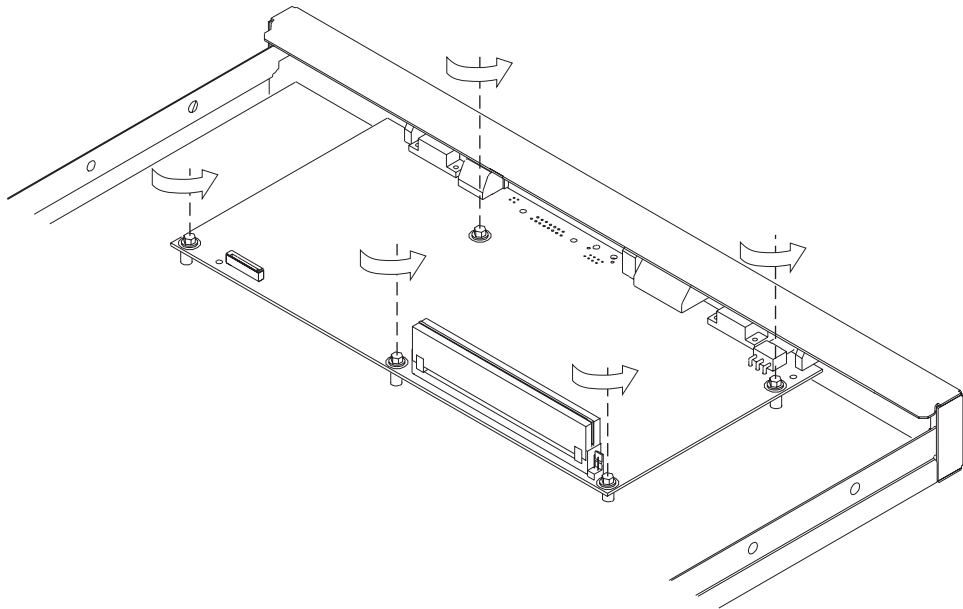
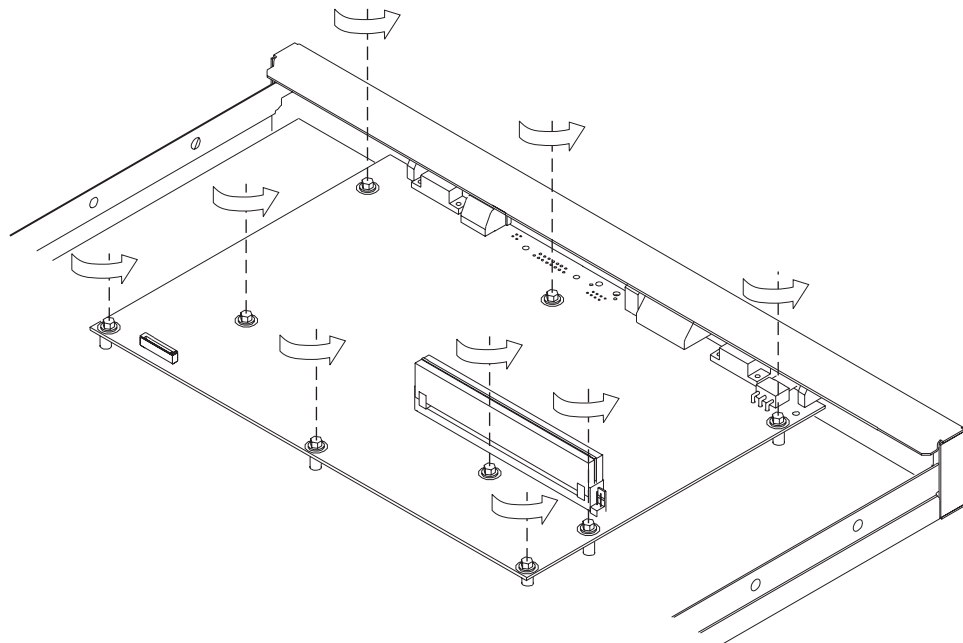

Figure 4-6. Non-ISDN System Board (12x Models)
Figure 4-7. ISDN System Board
- 4** Remove the system board retainer screws using a nut driver. Figure 4-6 on page 4-6 and Figure 4-7 on page 4-6 show the locations of the retainer screws for system boards that do and do not support ISDN.